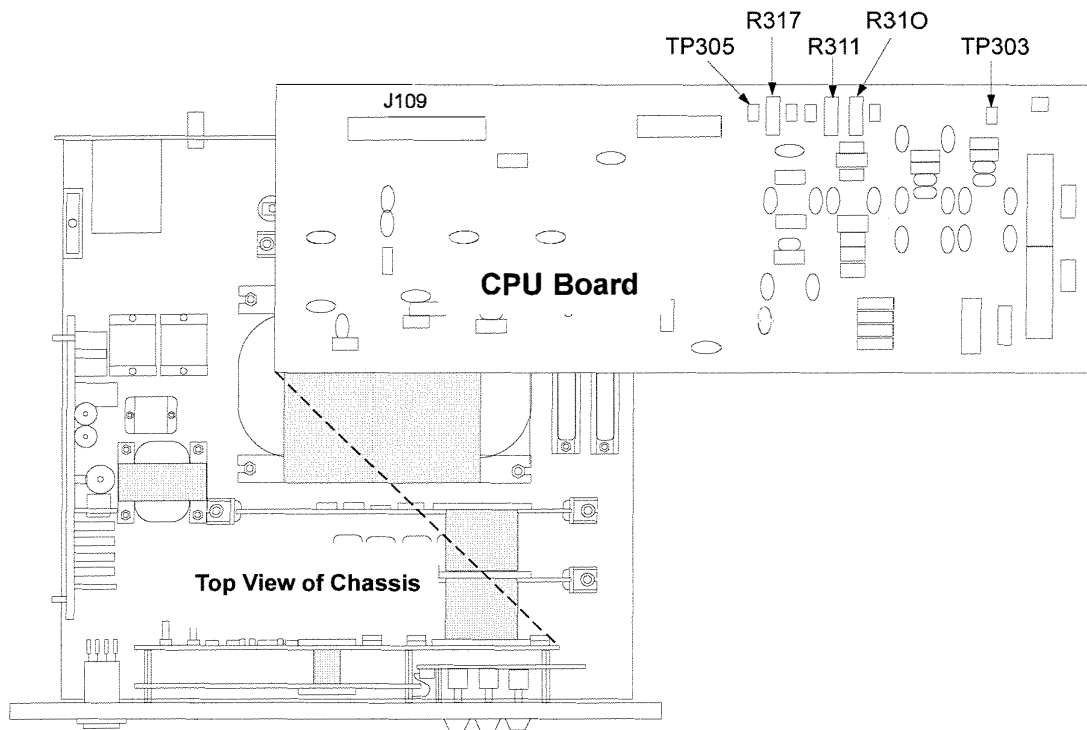

Figure 4-3. CPU Board Calibration Components
8. Connect a voltmeter between TP305 and TP303 (ground) on the CPU board to check the voltage reference. If necessary, adjust R317 to obtain a DVM reading of  $-3.06\text{V}$  (Figure 4-3).
16. To check the gain of the amplifier, adjust the variable current source for an output of 30 mA. Press the **CURR 5** key. Adjust R310 on the CPU board (Figure 4-3) so the front panel display reads  $3.0 \times 10^{-2}$ .